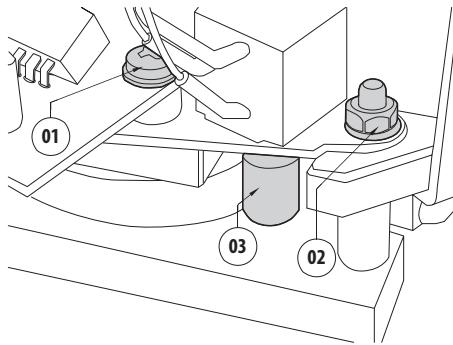
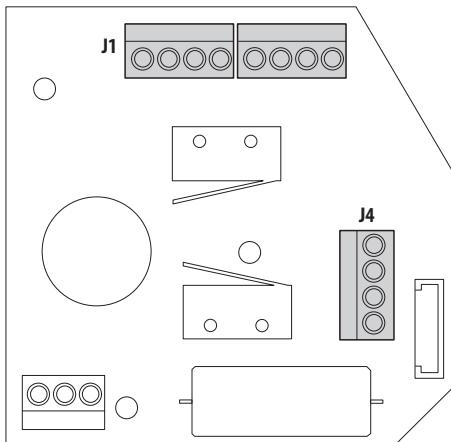

Fig. 3
Fig. 4
4. Loosen the fastening screw (01) and the nut (02) on the potentiometer holder bar of horizontal movement (Fig. 3, page 6).
5. Release the pinion (03) from the gear.
6. Connect an ohmmeter between the Vcc and Pan contacts of terminal J4 (Fig. 4, page 6). Turn the potentiometer shaft until the value of approx. 1875Ω is measured.
7. Re-position the potentiometer with the pinion (03).
8. Tighten the fastening screw (01) and the nut (02) (Fig. 3, page 6).
9. Repeat the same operation with vertical movement measuring the ohmic value between the Vcc and Tilt contacts on terminal J4 (Fig. 4, page 6).
Identify on the connector board the terminal for Pan & Tilt connection to the command units (J1) (Fig. 4, page 6).
Identify on the connector board the terminal for potentiometer connection (J4) (Fig. 4, page 6).